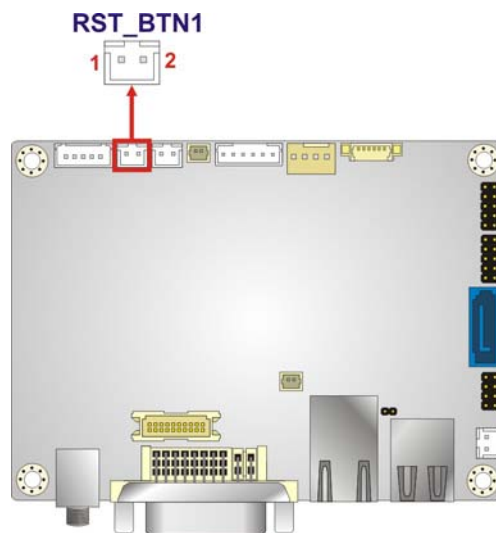

Figure 3-14: Reset Button Connector Location
- CN Location: See **Figure 3-14**